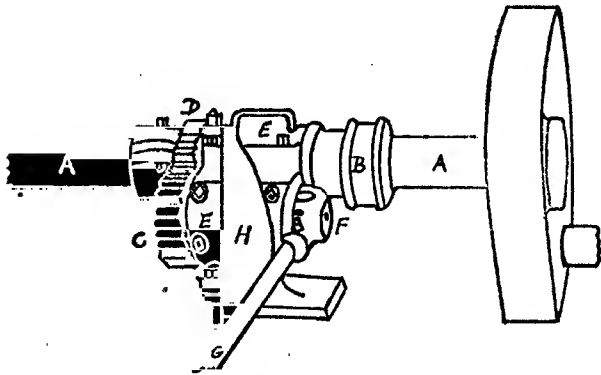

FIG. 84.—MARSH REVERSE.
**The Marsh Valve Gear.**—This valve gear illustrated in Fig. 84 is entirely different from those mentioned above, since it has no links or sliding blocks in its construction. The gear consists of a two part box EE, one end of which is mounted on the crank or main shaft, AA, while the